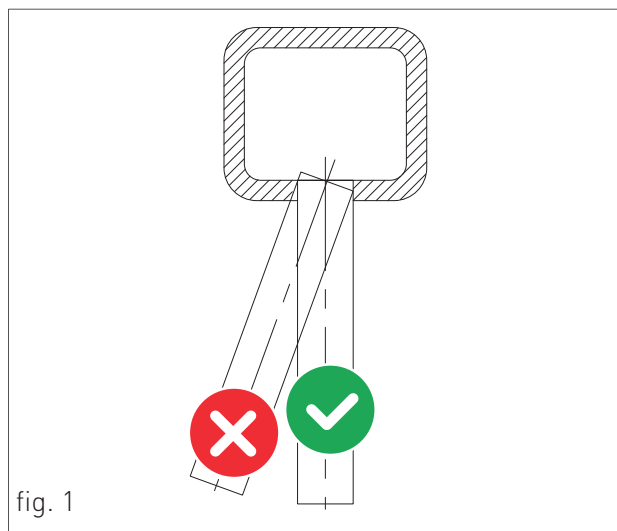

fig. 1
- › The discharge duct must be perpendicular with the opposite internal wall of the chimney or of the fumes exhaust duct (fig. 1).
For this type of boiler are available the following fumes discharge configurations: B23P, B33, C13, C33, C43, C53, C63, C83 e C93 (see Fig. 1).